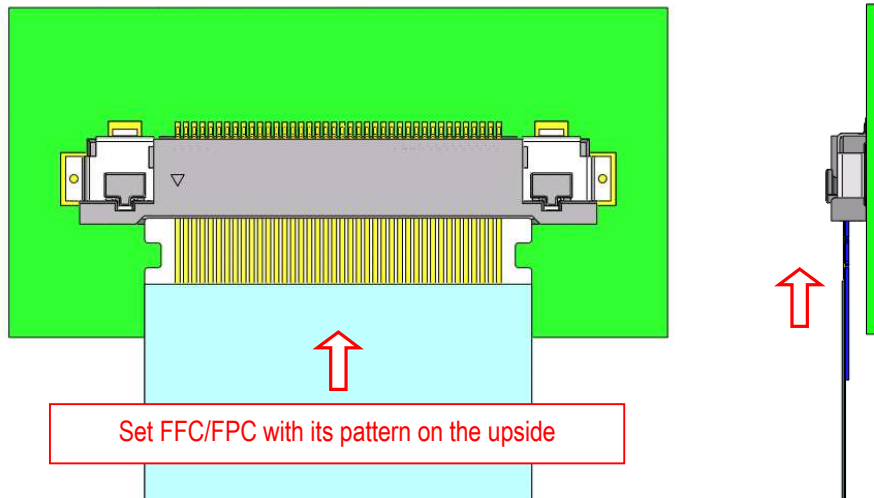

Fig. 2-1 FFC/FPC inserting method 1
① Please set FFC/FPC to the connector horizontally with its pattern on the upside as shown in Fig. 2-1